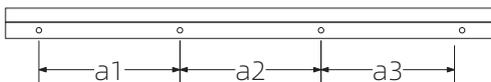

Fig.1
- After selecting the location of the mirror cabinet, check whether the wall is solid, measure the distance of the holes (a1,a2,a3) in the aluminum alloy bar with a tape measure and mark the wall with a level and pencil (Fig. 1).